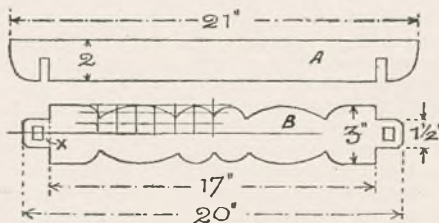
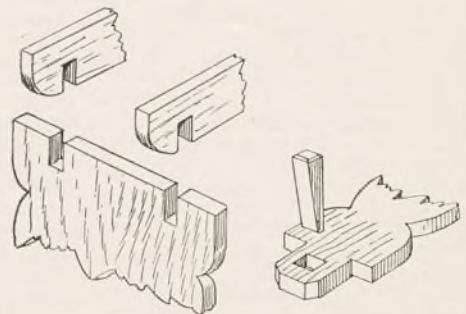

Fig. 2—Details of the rails
Fig. 3—The top rail fixing Fig. 4—How the wedges fit
The construction of the stool is shown in the details, Figs. 2, 3 and 4. There are two legs, having at their top edges two slots into which fit the pair of rails shown at A in Fig. 2. At Fig. 3 the rails are shown ready to be dropped into their corresponding slots.
At a distance of 6ins. up from the bottom of the legs are small mortises, into which fit the tenons of the cross-shaped rail B, Fig. 2. This rail is fastened in a real old-time style, by wedges inserted through holes made at the ends as detailed in Fig. 4.
The lower cross rail (B) in Fig. 2 has its shaping carried out in much the same way as the legs. One quarter of the outline is done direct, the remainder being finished with the carbon paper, using both the centre lines in the process of drawing.
Note the length of 17ins., and see the width between the dotted line at x, Fig. 2, and the edge of the square hole at each end of the rail is  $\frac{3}{8}$ in. So when the legs are put on and the tenons pushed through, these will have clearance enough for the wedges to pull the parts closely and rigidly together.
We can now turn our attention to the shaping of the boats, of which 14 are required. They are cut from  $\frac{1}{2}$  in. material  $1\frac{1}{2}$  ins. long and  $7/16$  in. wide. The forward boats, of which only two are required, are a little shorter. All of them can be nicely shaped up with knife and glasspaper, according to the curves shown in Fig. 3.